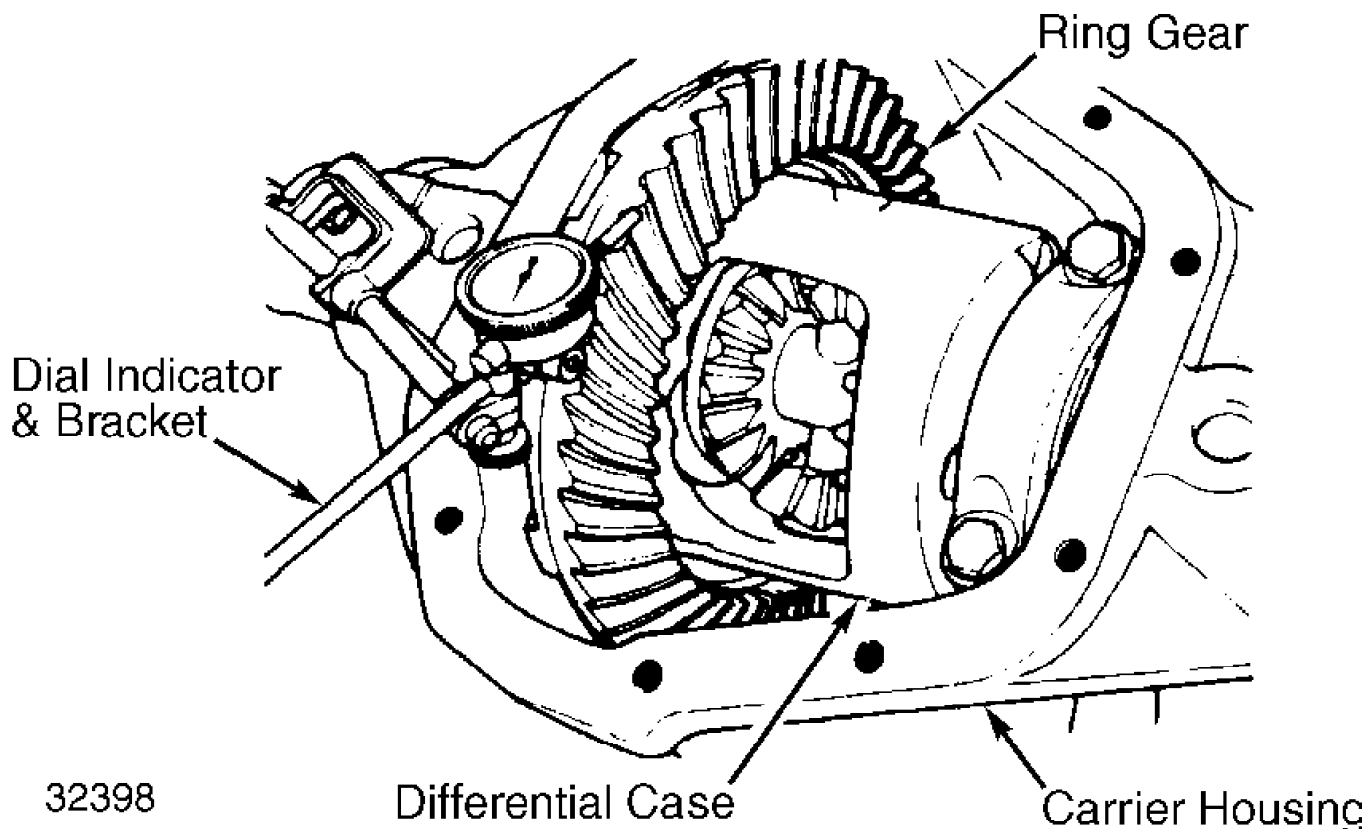

Fig. 15: Measuring Backlash Between Ring & Pinion Gears
1) Install side bearing caps, making sure reference marks made on caps and carrier match. Tighten cap bolts to 80 ft. lbs. (108 N.m). Check backlash between ring and pinion gears at 3 points spaced equal distance on ring gear. See Fig. 15.